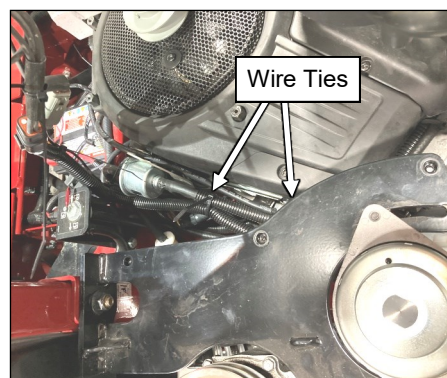

Fig. 6.12 (Secure compressor wires)
- 6.12 See fig. 6.12. Secure the compressor and dynamo wires to other wires next to the engine. Make sure the wires can't contact any hot or moving parts.